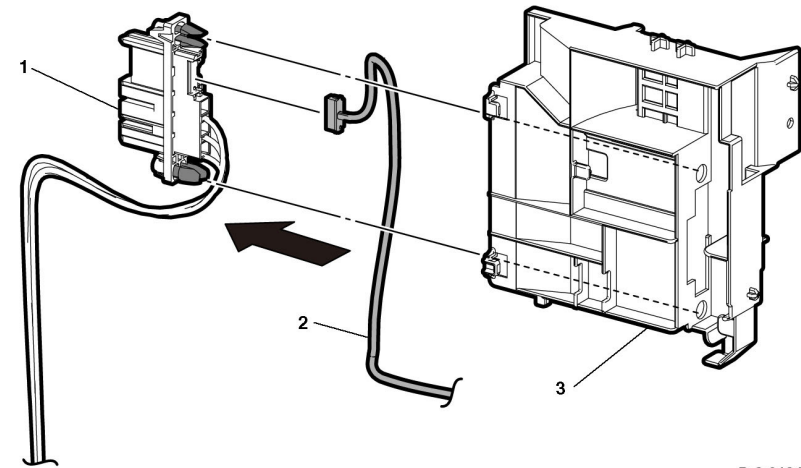

Figure 3 Harness assemblies separation
5. Remove the DC-CF fusing harness assembly (1) and AC fusing harness assembly (2) from the fusing harness guide (3), then remove the DC-CF fusing harness assembly from the AC fusing harness assembly, Figure 3.